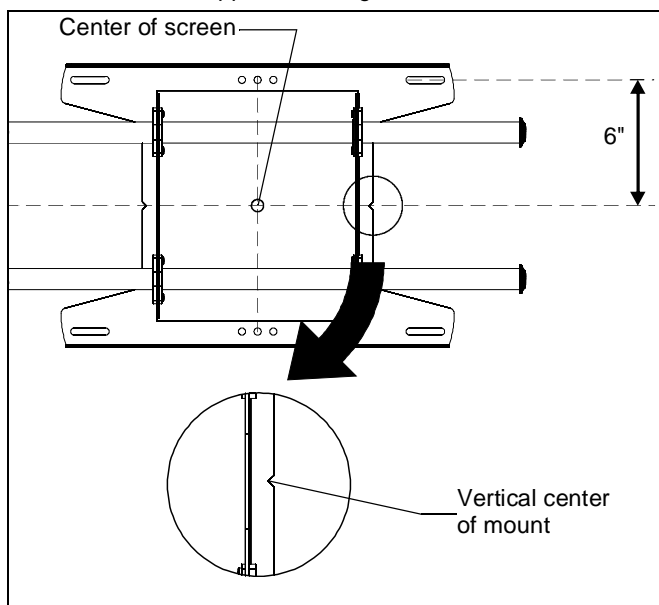

Figure 1
3. Line up the notches on mount with center of screen marking to determine vertical center. (See Figure 1)
2. Line up the notches on mount with center of screen marking to determine vertical center. (See Figure 1)
3. Measure up 6" (152.4mm) from the center point to mark location of the upper mounting slots. (See Figure 1)